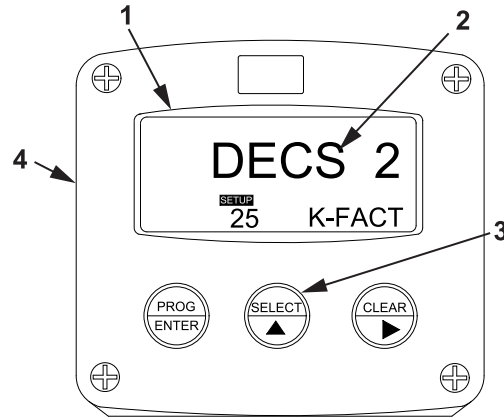

Figure 14. DECS 2 Display.
- j. Verify that DECS 2 (Figure 14, Item 2) appears on the display screen (Figure 14, Item 1). If DECS 2 (Figure 14, Item 2) does not appear, perform the procedure to program tank volume meter monitor settings and select DECS 2 (Figure 14, Item 2).
- k. Press the SELECT key (Figure 14, Item 3) on the tank volume meter monitor (Figure 14, Item 4).